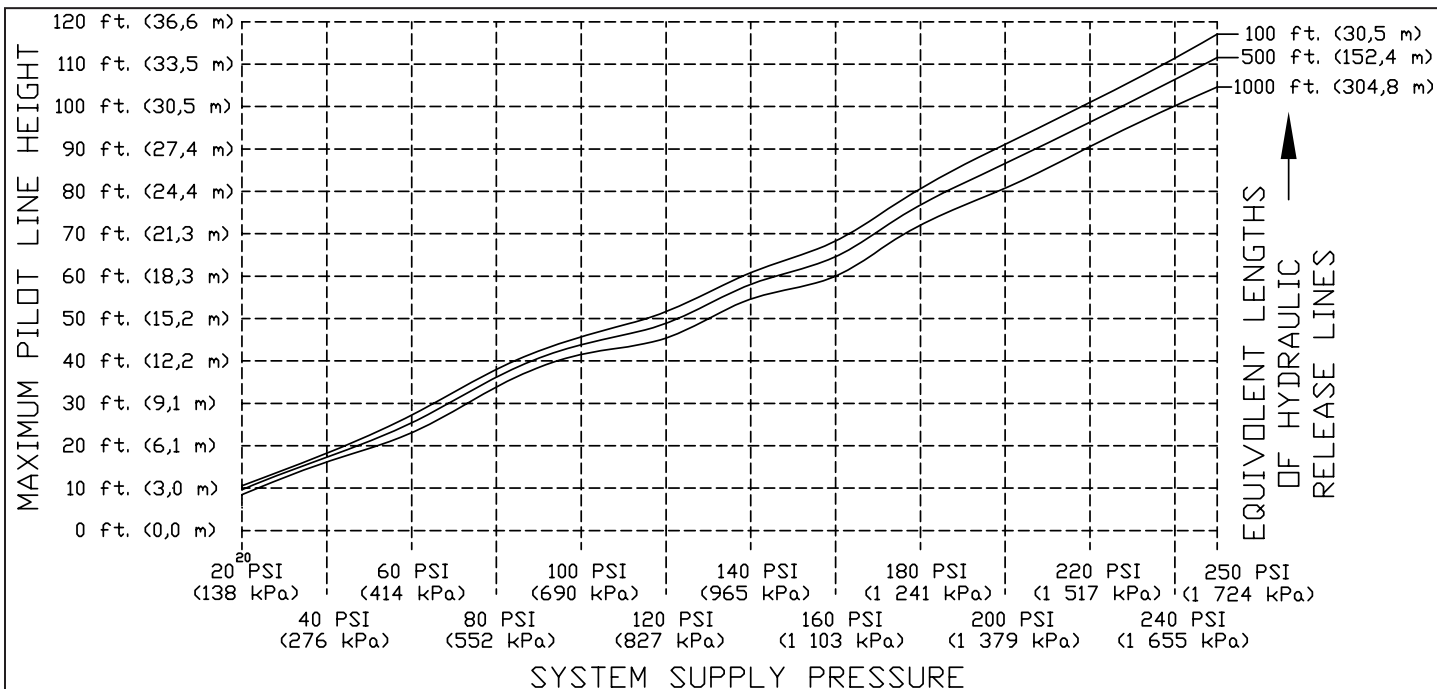

Figure 2
- a. Hydraulic Release Systems - See Figure 2 for the maximum allowable elevation of hydraulic release piping above the deluge valve. If the maximum height of hydraulic release piping exceeds the limits shown in Figure 2, use pneumatic or electric release system.